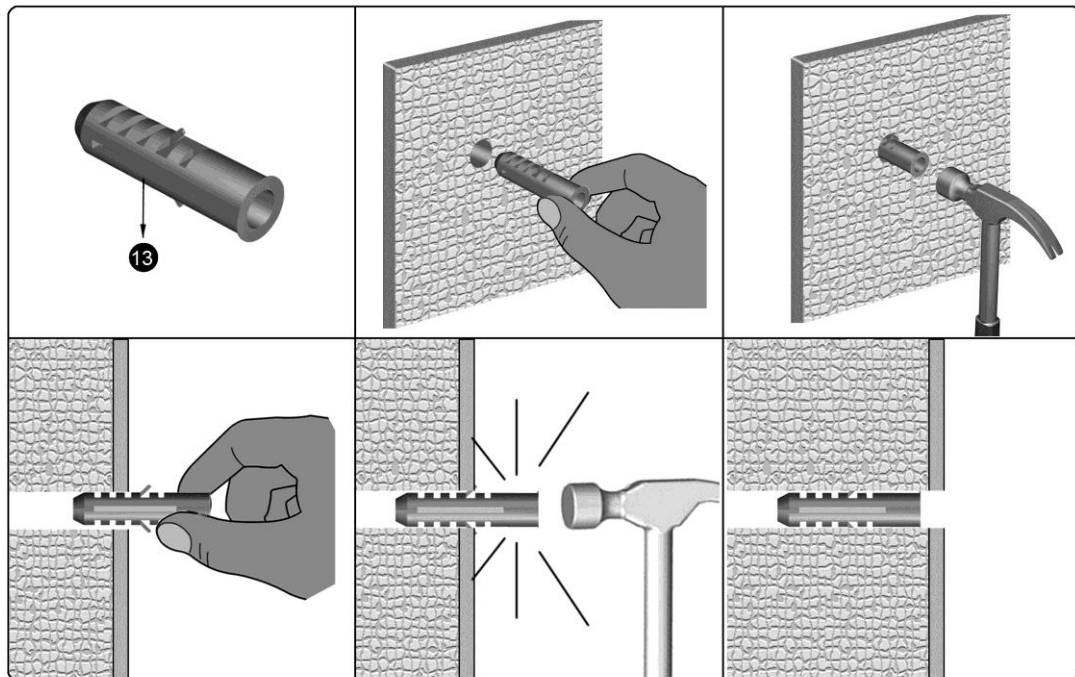

Figure 1-8
4. Insert Anchor **(13)** into anchor hole and seat with gentle tapping from hammer. Hammer anchor screw until anchor has fully collapsed against back side of concrete wall (**See Figure 1-8**).